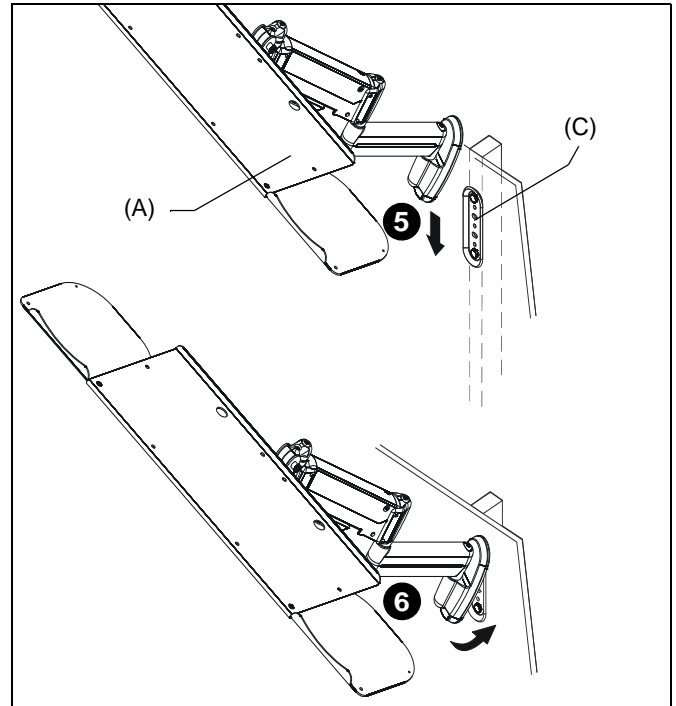

Figure 2
5. Insert top of wall mount (A) over lip on top of wall plate (C). (See Figure 2)
6. Swing wall mount down flush against wall. (See Figure 2)